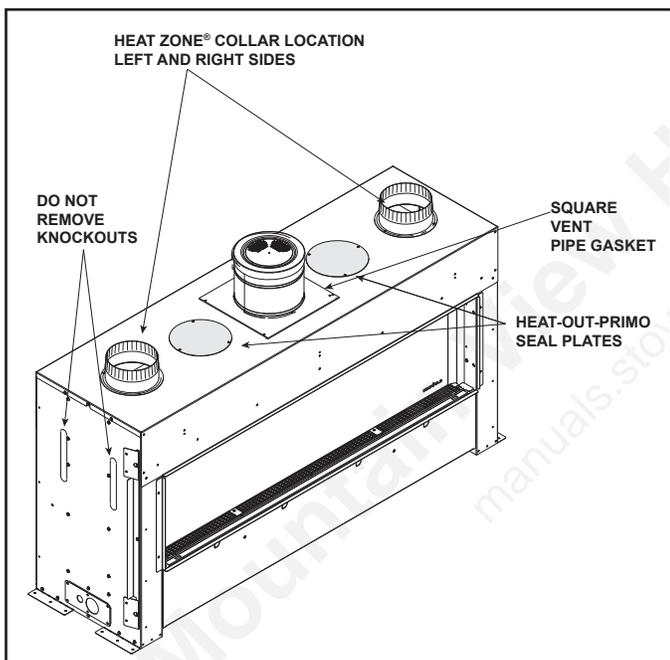

Figure 3. HEAT-ZONE-PRIMO
- Install the HEAT-ZONE-PRIMO collars on the left and right sides of the appliance with screws. See Figure 3.